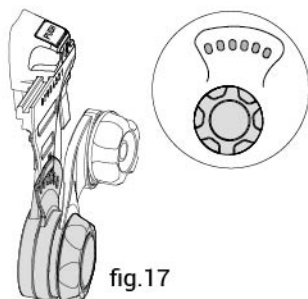

fig.17
- To adjust the resting position and rotation range, loosen tension knob, rotate lever to 1 of the 6 positions and tighten tension knob (See fig.17).